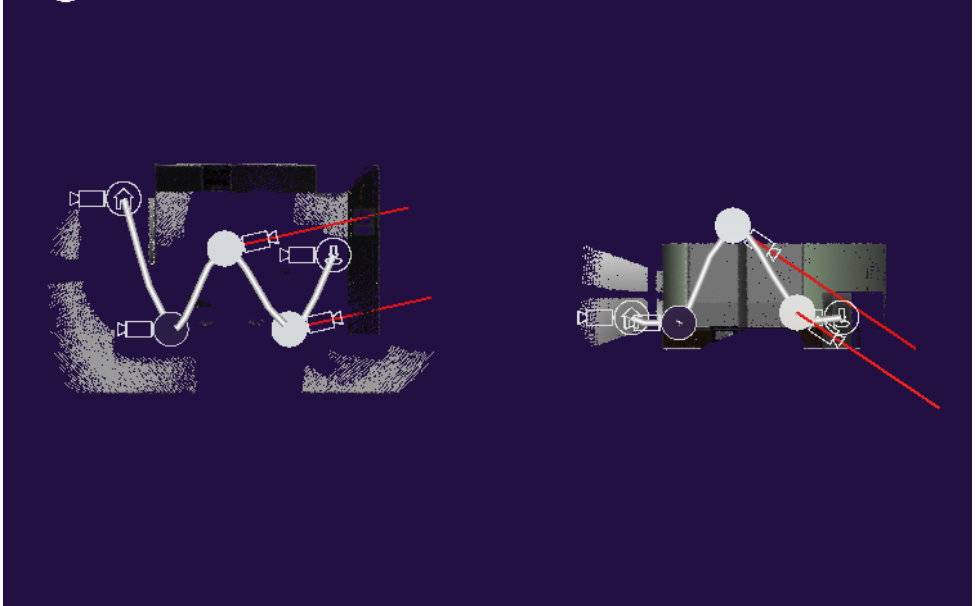

Figure 35. Locking the direction of a camera
- **Directional:** Any tap on the screen changes the direction of the gimbal for all the KPs selected (see Figure 35);